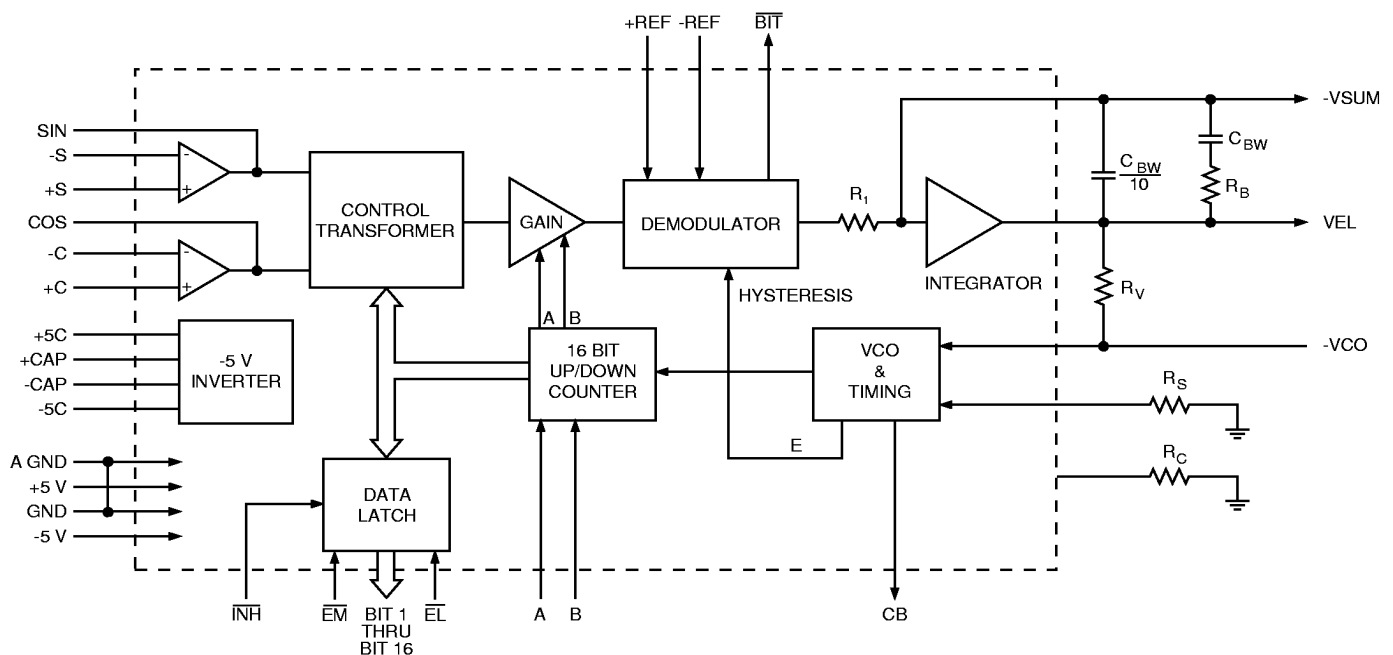

FIGURE 1. RDC-19220 SERIES BLOCK DIAGRAM
FIGURE 1 is the functional block diagram of the RDC-19220 Series. The converter operates with ± 5 Vdc power supplies. Analog signals are referenced to analog ground, which is at ground potential. The converter is made up of two main sections; a converter and a digital interface. The converter front-end consists of sine and cosine differential input amplifiers. These inputs are protected to ± 25 V with 2 k Ω resistors and diode clamps to the ± 5 Vdc supplies. These amplifiers feed the high accuracy Control Transformer (CT). Its other input is the 16-bit digital angle ϕ . Its output is an analog error angle, or difference angle, between the two inputs. The CT performs the ratiometric trigonometric computation of $\text{SIN}\theta\text{COS}\phi - \text{COS}\theta\text{SIN}\phi = \text{SIN}(\theta - \phi)$ using amplifiers, switches, logic and capacitors in precision ratios. **Note:** The transfer function of the CT is normally trigonometric, but in LDVT-mode the transfer function is triangular (linear) and could thereby convert any linear transducer output.